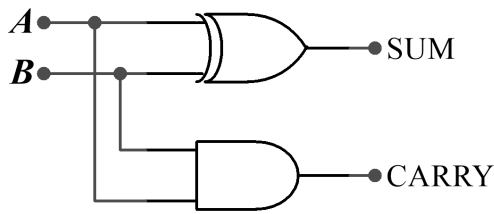

Figure 2.2. Half Adder
Consider the sum and carry as two separate truth table results generated by the inputs A and B. Note that the sum has generated an exclusive-OR table and the carry, an AND result. Figure 2.2 is the schematic of the circuit that produces this half adder truth table.
7. A *half-adder* is a binary adder (figure 2.2) which combines two binary digits and provides an output and a carry. A half adder has four possible input combinations (table 2.5).